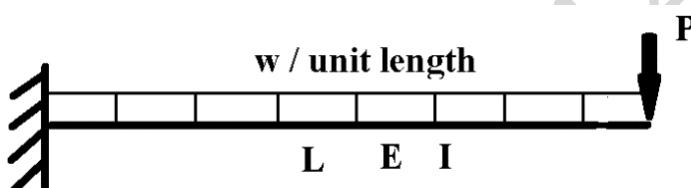

Fig. 6b
b) For the beam loaded as shown in fig 6b, determine the nodal unknowns and support reactions. $E=200$ GPa, $I=10 \times 10^{-4}$ m 4 . Take $L=3$ m, $w=10$ N/m, $P=50$ kN.